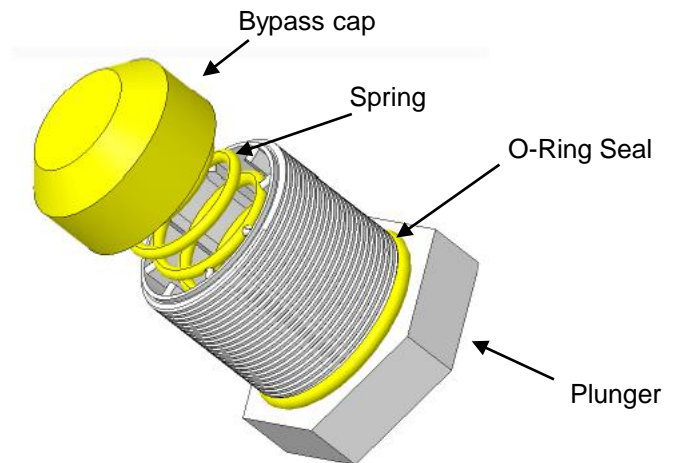

Figure 20
1. Remove cap and spring, Figure 20